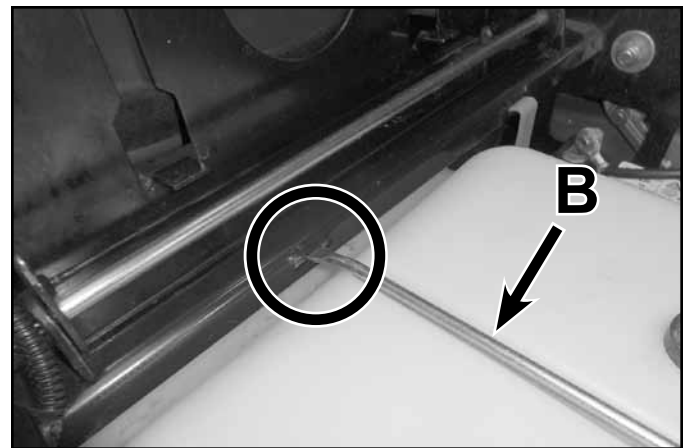

Fig. 038
2. Install the (2) bolts and nuts (C) that secure the seat support to the frame brackets and torque to specification – 17 ft-lbs. (23 Nm).
3. Install the fuel tank retaining rod (B) and torque retaining bolt to specification – 8 ft-lbs. (11 Nm). Be sure the front rod end is engaged into the control box assembly (Fig. 038).